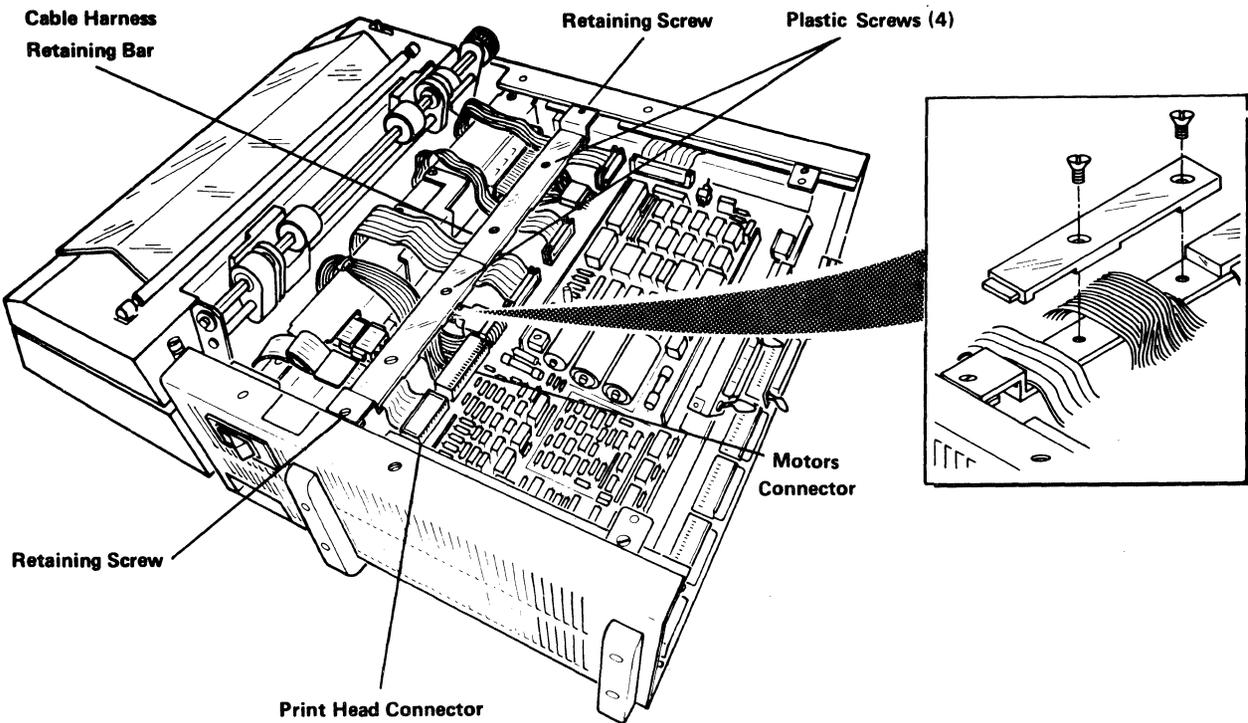

Figure 4-26. Processor Unit Cable Harness (Top View).
9. Remove the two (2) cable harness retaining screws that hold the cable harness retaining bar in place (See Figure 4-26).
5. Carefully route the printer/plotter control board AC; the printer motors, and printhead cables through the processor unit (See Figure 4-26).